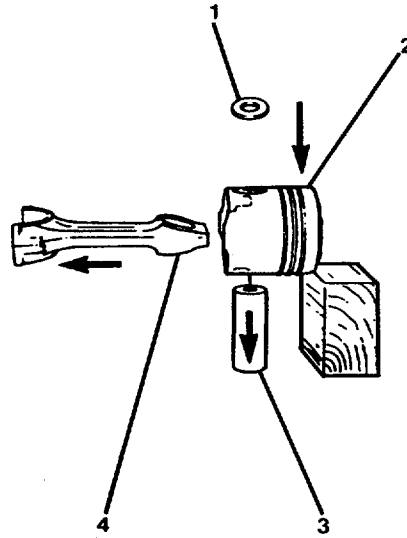

FIGURE 3-23. *Removal of Piston from Connecting Rod.*
- (1) Remove one retaining ring (1, FIG. 3-23).